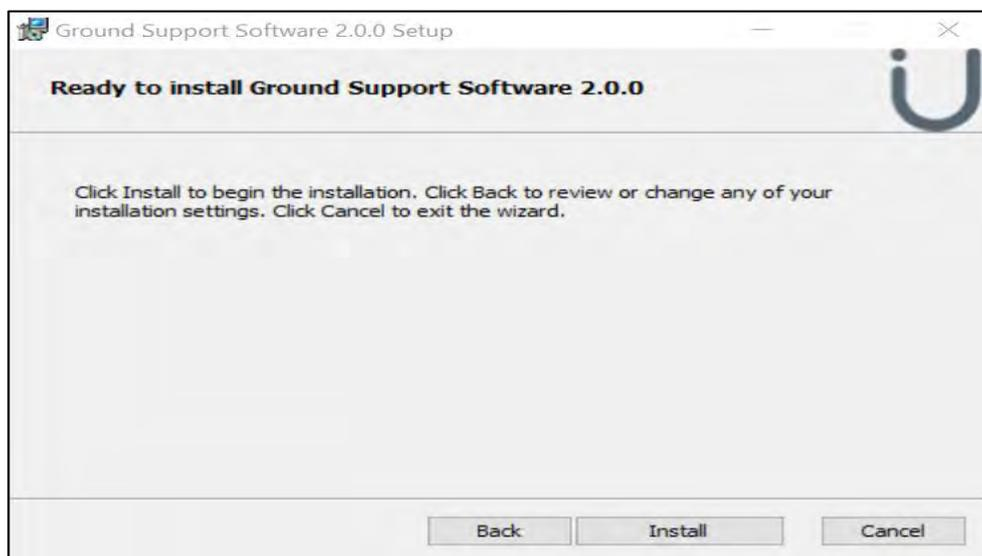

Figure 2-7 Ready to Install
- (a) Select Install on the ready to install screen (**Ref Fig 2-7**)